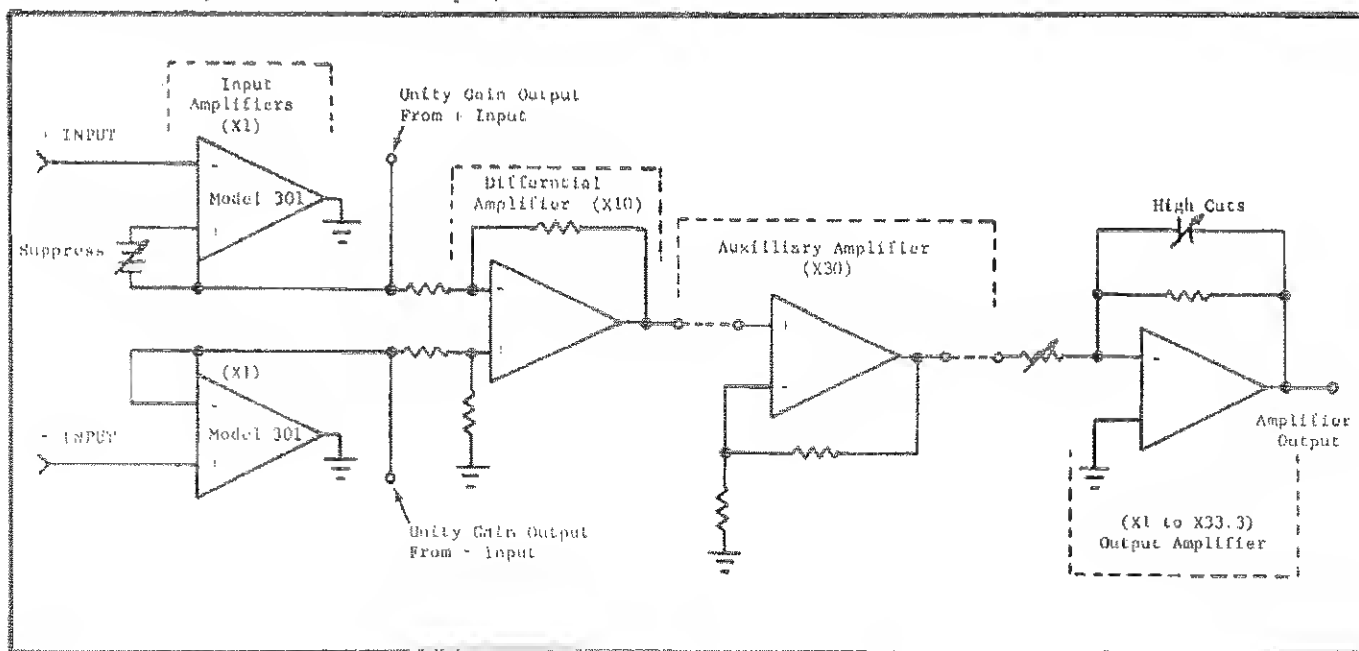

FIGURE 7. Model 604 Block Diagram.
b. The block diagram in Figure 7 illustrates the basic sections of the circuit of the Model 604. The schematic diagram, 22820E, is a detailed diagram showing the complete circuit of the Model 604 and the circuit designations. Refer to these to better understand the description given in the following paragraphs.
The Table gives the total gain of the Model 604 Electrometer Amplifier in one column, and the gain of each component amplifier within the Model 604 corresponding to each total gain. Refer also to Figure 7 which shows the basic amplifiers composing the Model 604 circuit.